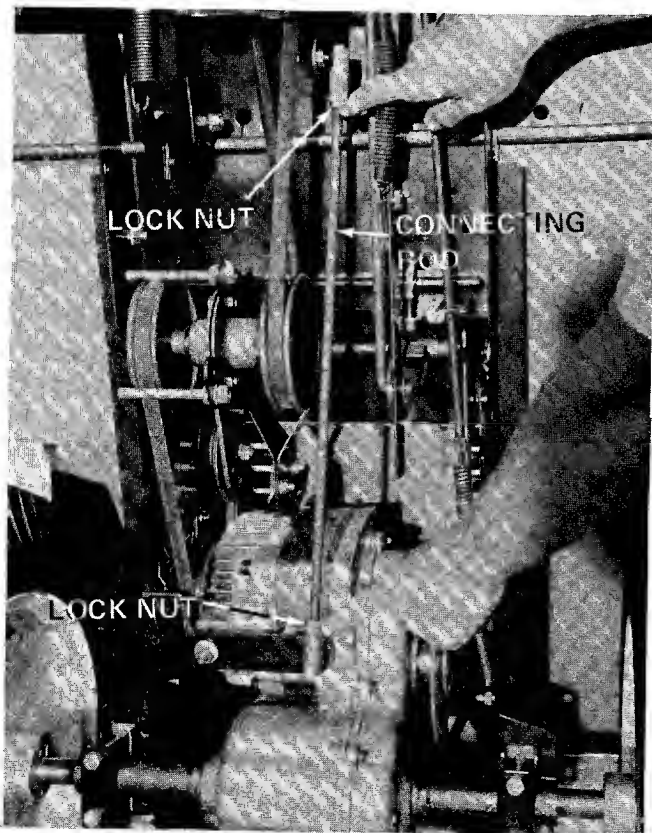

FIGURE 14.
2. Loosen both lock nuts on both ends of the connecting rod. See figure 14.